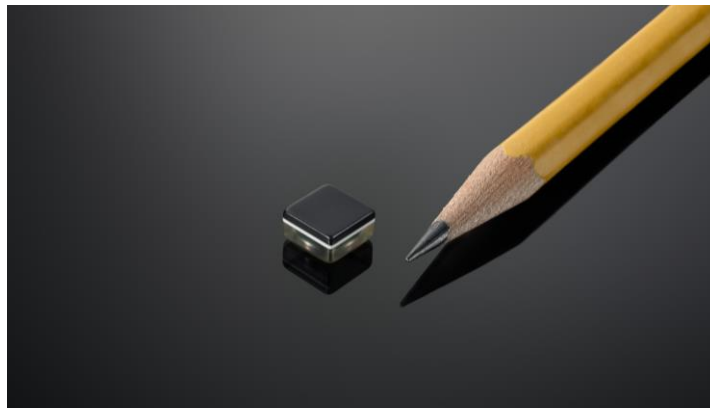

Figure 1. CubiSens™ TS100 Wireless Temperature Sensor
- **Abrupt Temperature Change During Measurement:** Measurement interval must be set to ensure <math><20^{\circ}\text{C}</math> change between successive measurements. For example, if the TS100 needs to be abruptly dropped into a hot or cold liquid during measurement resulting in a rapid temperature change of - **Battery Life:** The TS100 operation lifetime varies significantly depending on the exposed temperature and measurement interval. Before starting measurement operation, please refer to Figure 1 of “TS100 Technical Datasheet” to select the appropriate measurement interval.